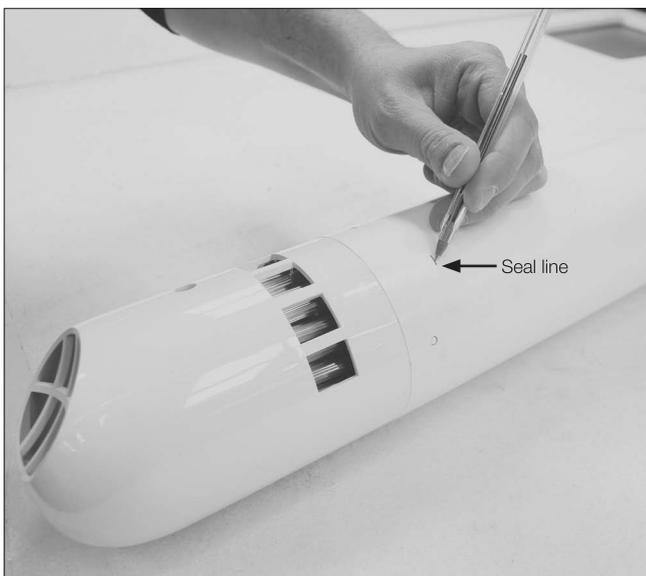

Fig.16A
- 16** Mark out the seal line on the heat cell. Always fit heat cell through unit BEFORE fitting seal (Fig.16A & Fig 19).